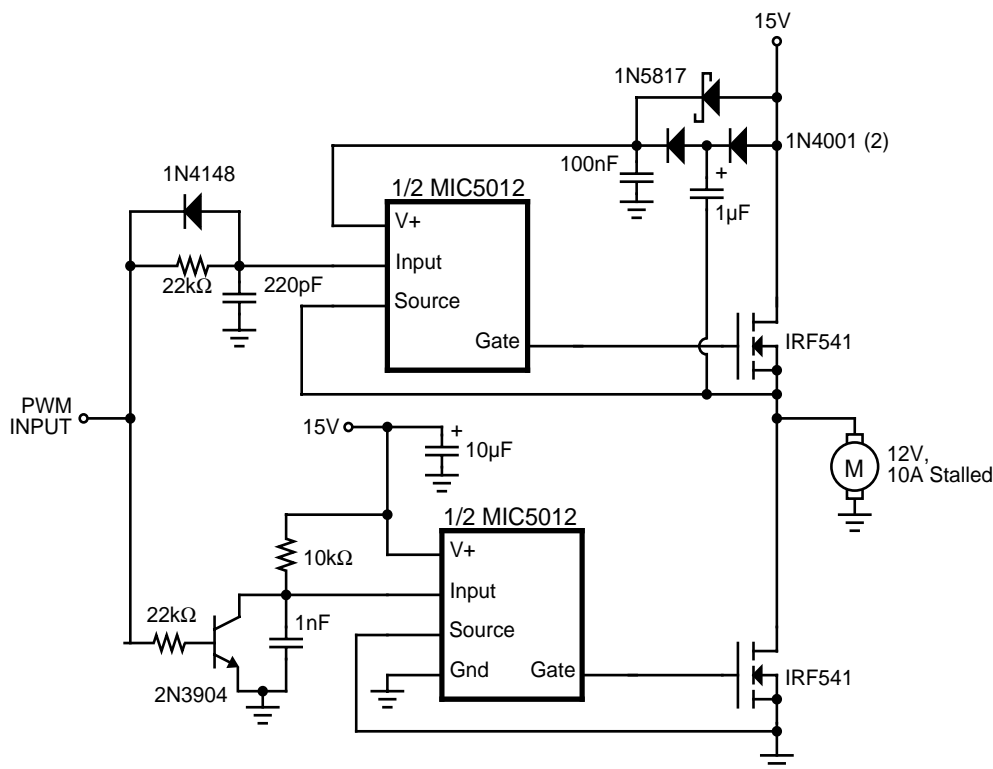

Figure 6. Half-Bridge Motor Driver
Since the supply pins are independent, the two drivers contained in the MIC5012 can be operated from separate supplies of different values (see Figure 6).
**Half-Bridge Motor Driver** (Figure 6). Closed loop control of motor speed requires a half-bridge driver. This topology presents an extra challenge since the two output devices should not cross conduct (shoot-through) when switching. Cross conduction increases output device power dissipation. Speed is also important, since PWM control requires the outputs to switch in the 2 to 20kHz range.
The circuit of Figure 6 utilizes fast configurations for both the top- and bottom-side drivers. Delay networks at each input provide a 2 to 3 $\mu$ s dead time effectively eliminating cross conduction. Two of these circuits can be connected together to form an H-bridge for locked antiphase or sign/magnitude control.